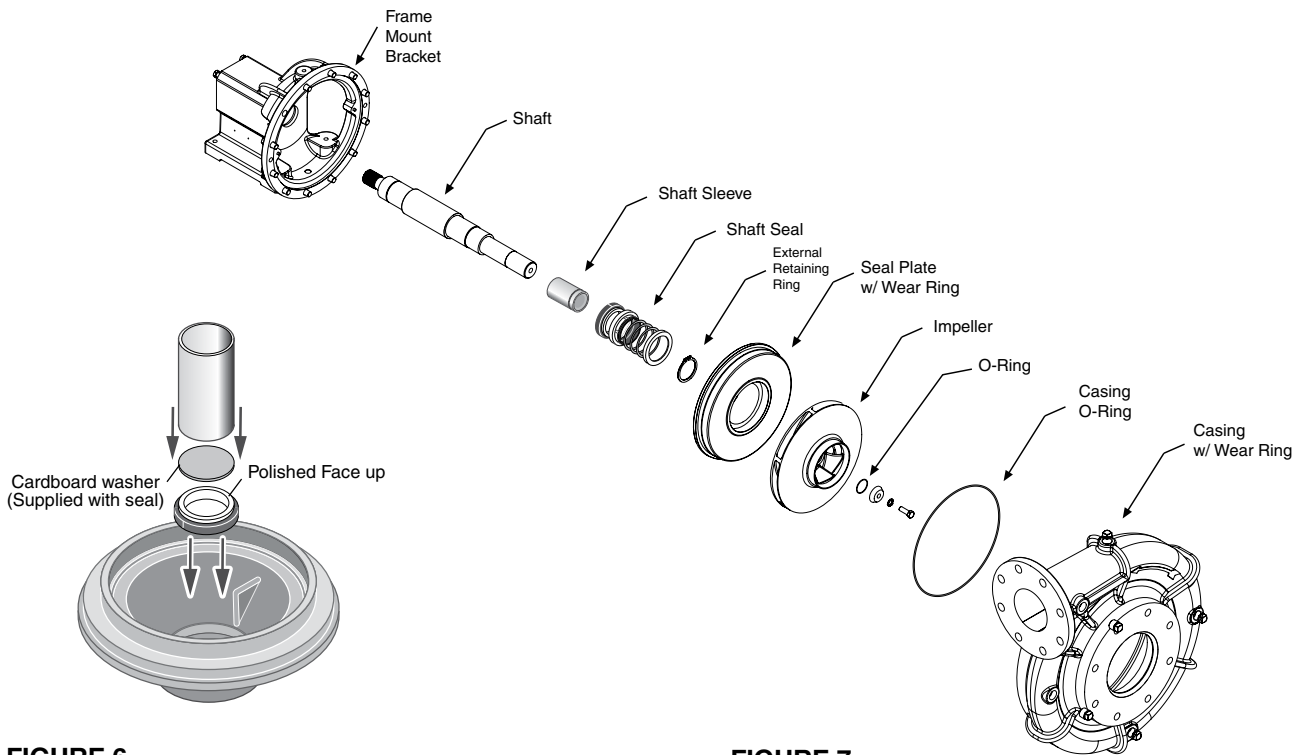

FIGURE 6
- Use the seal installation tool to press the stationary seal into place. (See **FIGURE 6**).